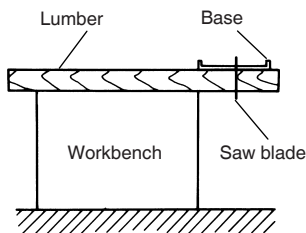

Fig. 14
2. **Prepare a wooden workbench (Fig. 14)**